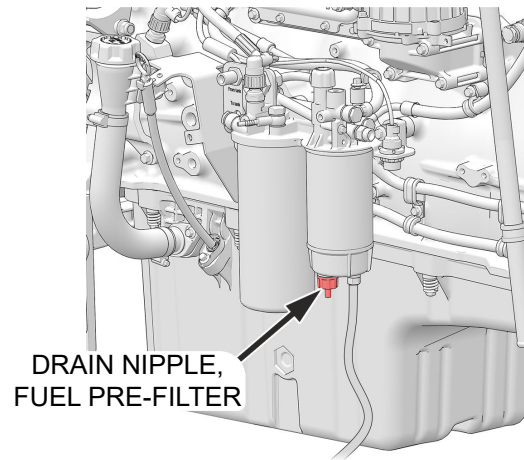

Figure 56. Fuel Prefilter Drain Nipple
2. Loosen the **drain nipple** (Figure 56) in the base of the **fuel prefilter** to begin draining.